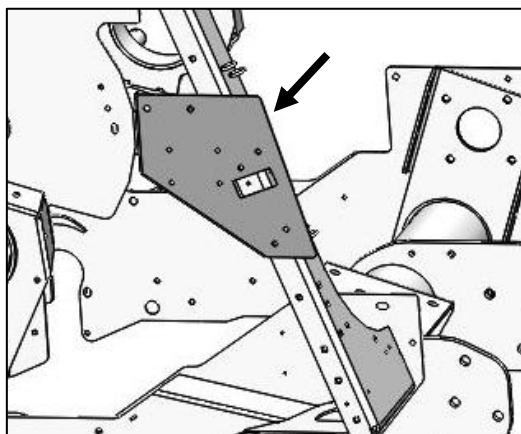

Figure 2
2. Locate mounting holes for your size baler in bracket (001-4703XE). Mount bracket to pre-stamped square holes on diagonal support structure of baler, (Figure 2). Secure with two M8 x 25mm carriage bolts and flanged nuts.